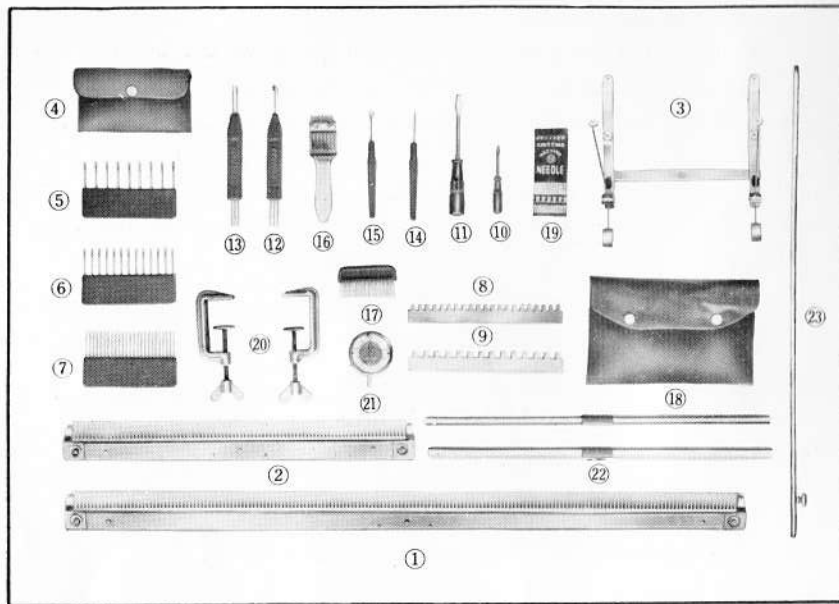

Fig 8
7. Take the automatic yarn feeder upright rod 23, Fig. 8, and place it into the removable bracket hole 5 and fasten it securely with the thumb screw on the arm rod.